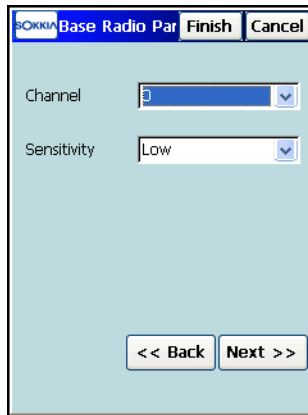

Figure 4-11. Pacific Crest Radio Parameters
- Pacific Crest and Internal HiPer (Pacific Crest) modems need a channel and sensitivity to be chosen (Figure 4-11 on page 4-10).